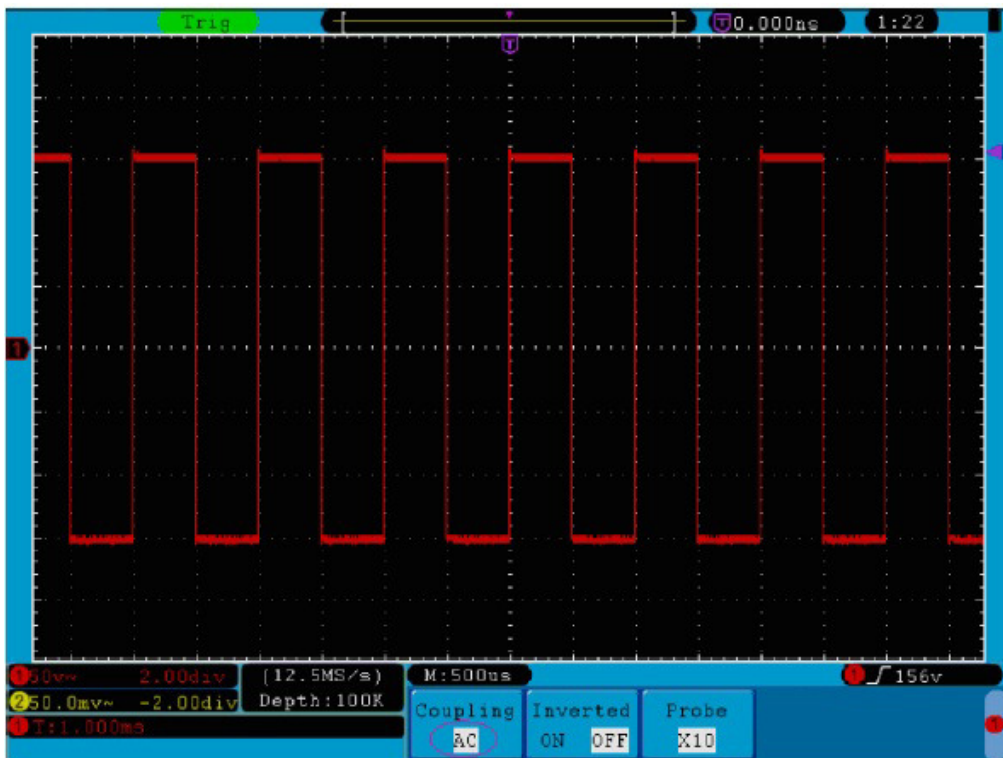

Fig. 14 AC Coupling Oscillogram
- * Then, press **F2** button to select the Coupling item as “**AC**”. By setting the channel coupling as AC mode, the direct current component of the signal will be blocked. The waveforms are shown as **Fig. 14**.